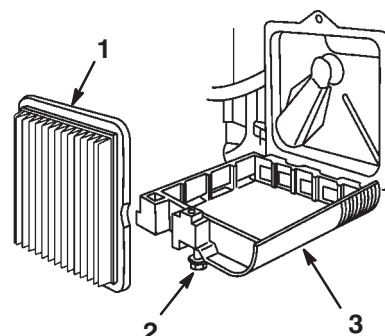

Figure 10
3. Loosen the screw that secures the air filter cover to the engine (Fig. 10).
5. Remove and discard the old paper air filter (Fig. 10).